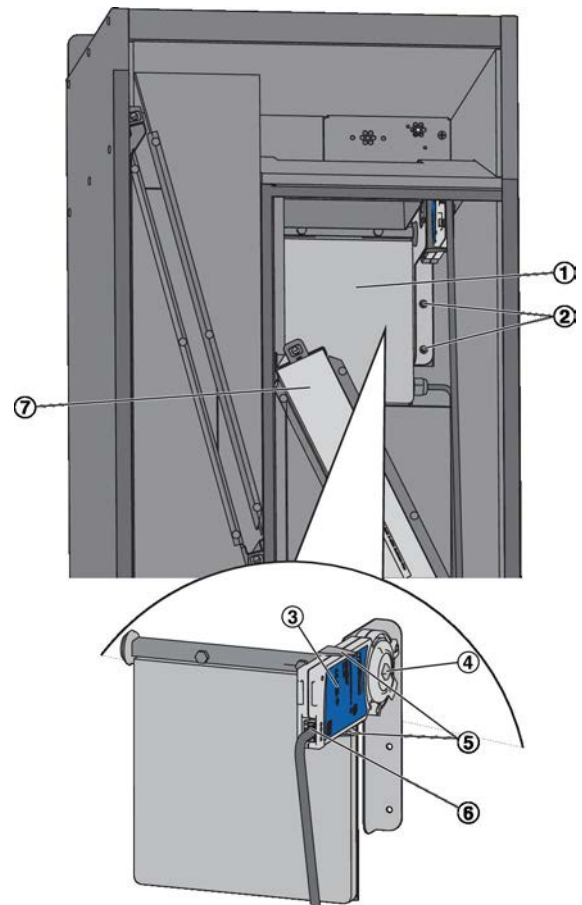

Fig. 29: Replacing an actuator
The outdoor air damper is installed above the fine dust filter (Fig. 29/7).
3. ▶ Loosen the two Phillips screws (Fig. 29/2).
4. ▶ Remove the entire outdoor air damper assembly (Fig. 29/1).
5. ▶ Pull the connection plug (Fig. 29/6) off the actuator (Fig. 29/3).
6. ▶ Release the actuator from the retaining bracket (Fig. 29/5) and fit a new actuator.